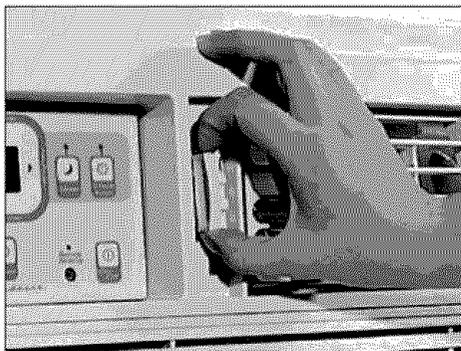

Fig. 1 (OFF)
- Recirculate inside air - Vent Closed (see Fig. 1)